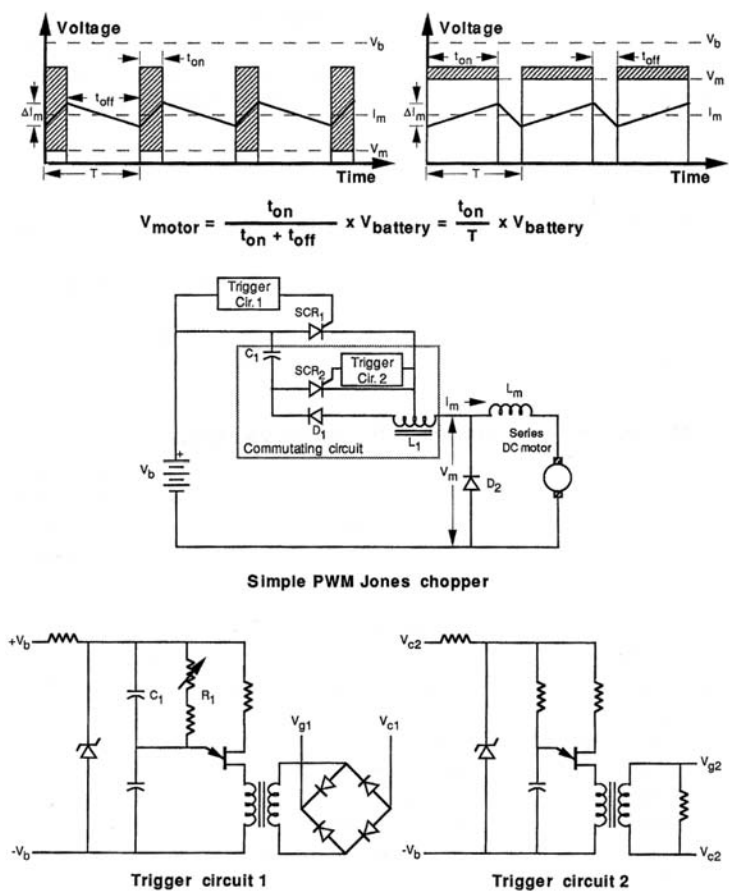

FIGURE 7-1 Summary of Jones switch PWM chopper controller characteristics.
The easiest way to vary the DC voltage delivered to a DC motor is to divide its steady, nonvarying DC component into smaller pieces (see Figure 7-1). The average of the number and size of these pieces will be a resultant DC voltage that the motor “thinks” it is receiving. At the top left of Figure 7-1, the value of the voltage delivered to the motor is
The Jones chopper circuit shown in the middle of Figure 7-1, adapted from an early GE SCR manual, is one of the simplest variations. Earlier, similar PWM circuits were also built in transformerless style using transistors. The Jones chopper is easy to look at and analyze, and its basic lessons apply to all PWM controllers.
- It “smooths” motor current I_m and enables it to continue to flow when SCR_1 is not conducting (top of Figure 7-1), and prevents the inductive-current-generated high-voltage spikes, which could potentially damage the transistors, from appearing across the motor when SCR_1 is turned off.
- Diode D_1 prevents the L_1 – C_1 combination from oscillating. Other than the SCRs and diodes, the key circuit elements are the center tapped autotransformer (both windings have the same number of turns, inductance, etc.), whose inductance is simply labeled L_1 in Figure 7-1, the capacitor labeled C_1 , and the combined series motor and external inductance labeled L_m .
The frequency of the chopper is controlled by the R_1 – C_1 combination (where R_1 is the sum of the fixed and variable resistors in that branch of the circuit) in trigger circuit 1 shown at the bottom left of Figure 7-1. In this case, a unijunction transistor forms the heart of a relaxation oscillator whose period is controlled by the RC time constant such that